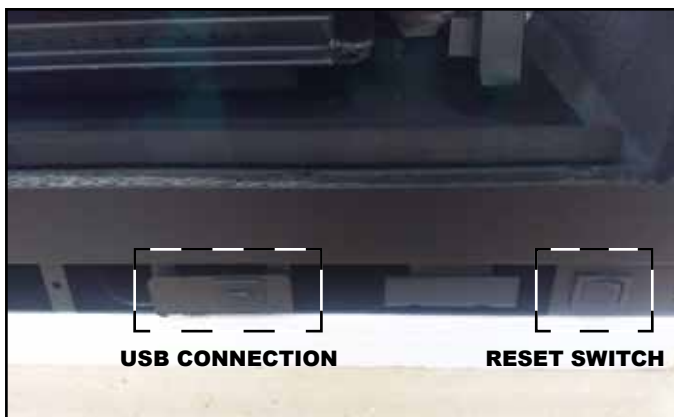

Figure 3.4
5. Locate the USB-C connector on the appliance as shown in Figure 3.4. Remove rubber plug from the USB-C port and insert the battery backup power source USB-C connector into the appliance USB-C port. Save USB-C rubber plug for reusing after power has been restored.